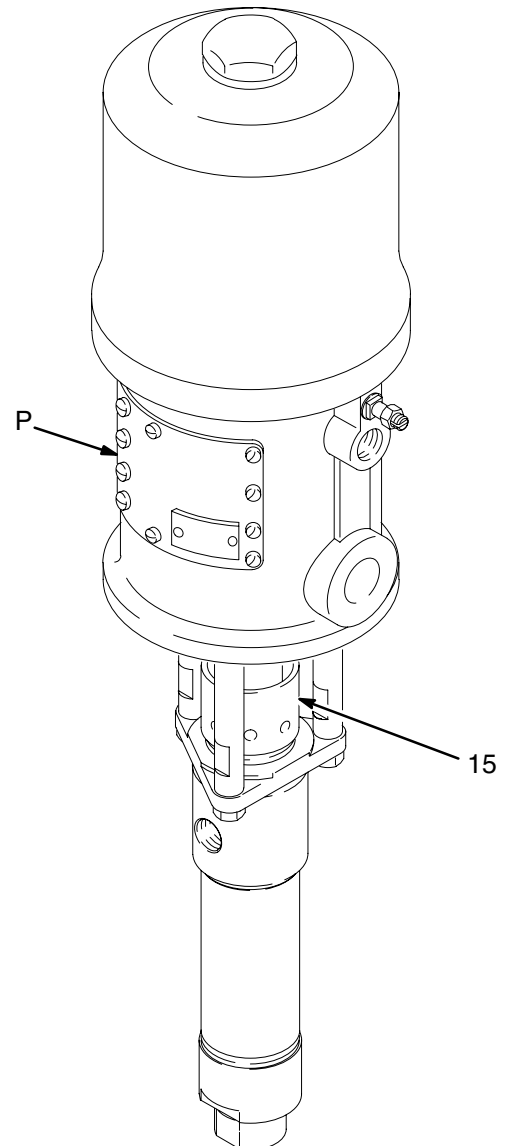

Fig. 3
Keep the packing nut/wet-cup (15) filled with Graco Throat Seal Liquid (TSL) or compatible solvent, to help prolong the packing life. Adjust the packing nut weekly so it is just tight enough to prevent leakage; do not overtighten. See Fig. 3. **Relieve the pressure** before adjusting the packing nut.
Moving parts can pinch or amputate your fingers or other body parts. When air is supplied to the motor, the air motor piston (located behind the air motor plates) moves. See Fig. 3. Therefore, **never** operate the pump with the air motor plates (P) removed.